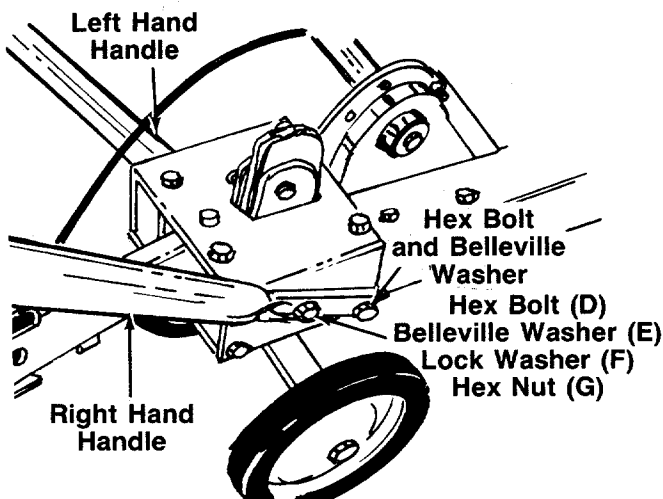
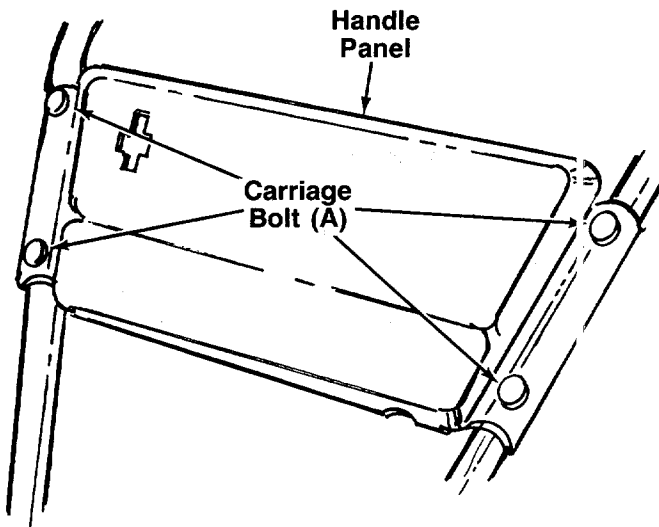

FIGURE 6.
FIGURE 7.
1. Place the right and left hand handles in place against the tiller frame. See figure 6.
3. Secure the top hole in handle with hex bolt (D), belleville washers (E), lock washer (F) and hex nut (G). See figure 6.
4. Place the handle panel in position on the handles. Secure with four carriage bolts (A), lock washers (B) and hex nuts (C). See figure 7.
5. Tighten securely hex nuts (C) with 1/2" wrench.
6. Tighten securely hex bolts on lower handle (figure 6) with two 9/16" wrenches.